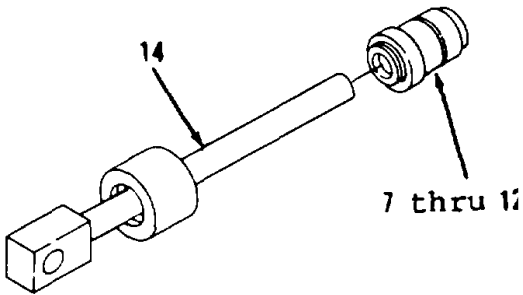
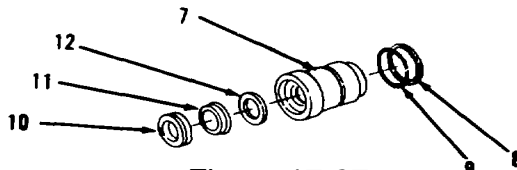

Figure 17-26.
Figure 17-27.
6. Remove items 7 thru 12 as an assembly (Figure 17-26).
7. Remove ring (8), preformed packing (9) and seals (10 thru 12) from head (7, Figure 17-27). Discard preformed packing (9) and seals (10 thru 12).
2. Using clean oil, lubricate new seals (12 thru 10), new preformed packing (9) and ring (8, Figure 17-27).
3. Using seal installer, install new seals (12 thru 10) in head (7). Lip of seal (11) is toward inside of head (7). Lip of seal (10) is toward outside of head (7).
4. Install items 12 thru 7 as assembly on rod assembly (14, Figure 17-26).